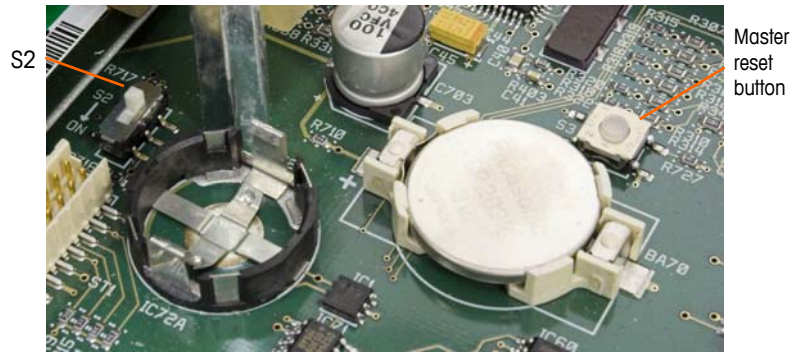

Figure A-36: Main PCB Master Reset Button Location
To erase all programming in the terminal and reset all settings (except metrologically significant scale calibration data) to their factory default values, press the master reset button adjacent to the battery. Figure A-36 indicates the location of this button. This process is described in the **IND780 Technical Manual**, Chapter 4.0, **Service and Maintenance**.
- To reset scale data as well, S2 (shown in its OFF position in Figure A-36) must be set to ON before the master reset.